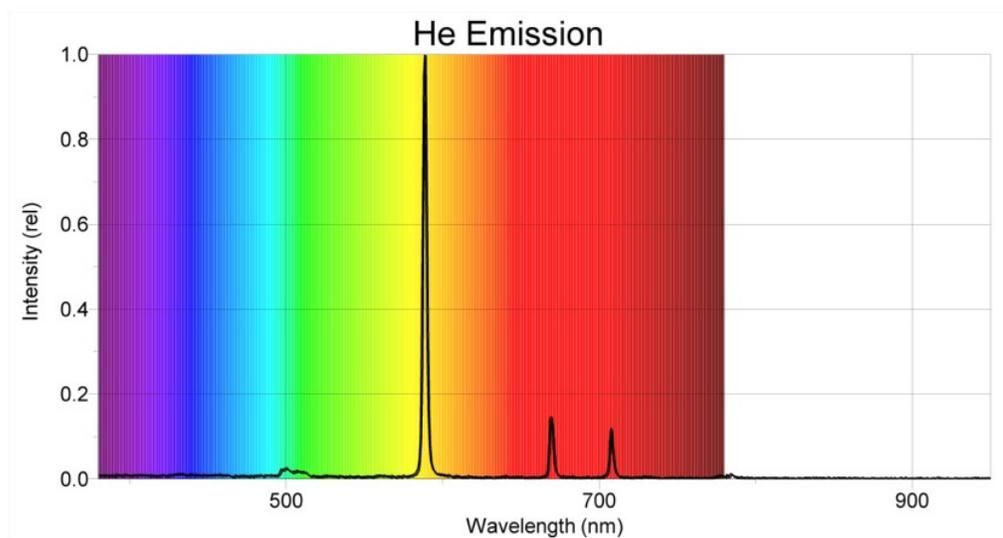

Figure 10.10: An example of an Helium emission spectrum, similar to what you will see on the computer screen.
4. **When you achieve a satisfactory graph, stop data collection.** An example of an emission graph for helium is shown in Fig. 10.10. If the highest peak in the emission spectrum is > 1 , then the sensor is saturated and needs to receive less light. Try moving the optical fiber away from or towards the light source, or point it slightly off-center, until the highest peak is ≤ 1 . If this doesn't help, stop data collection and increase or decrease the **Sample Time** as described in Step 4 of the **Setup** section.